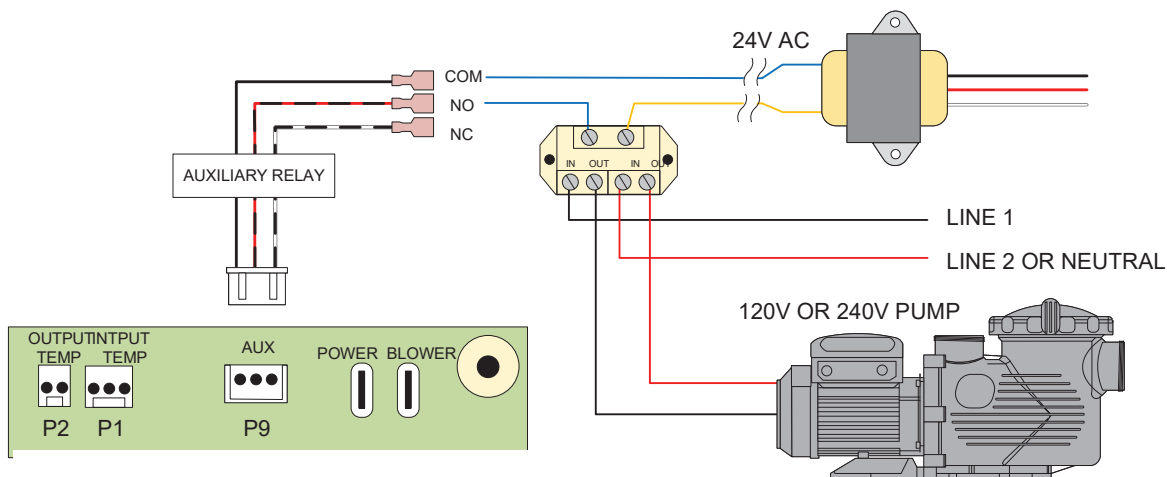

Figure 147. High Power Applications with Field-Supplied Relay
- **Load on P9 must not exceed 3 Amps.** If the load is larger than 3 Amps, use P9 auxiliary output to drive a field-installed contactor. See Figure 147.